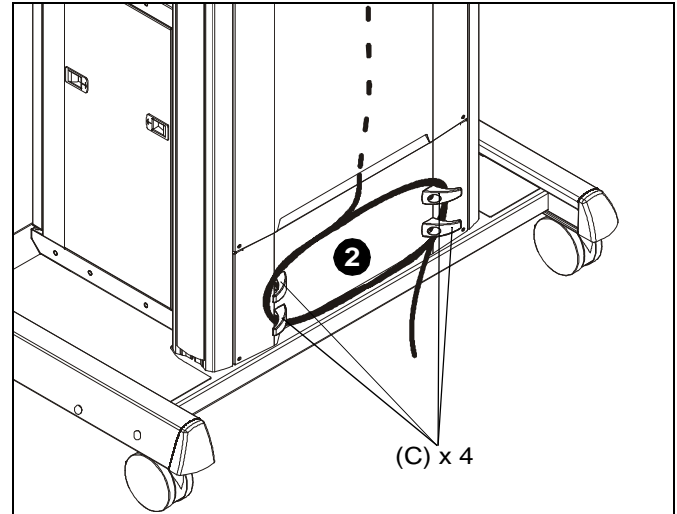

Figure 16
- Wrap cables around cable hooks (C) as desired. (See Figure 16)